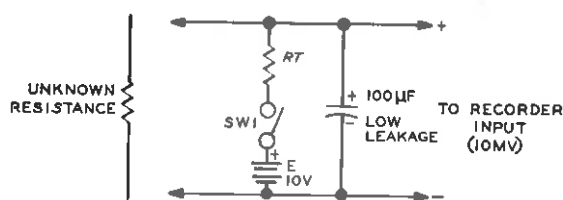

Figure 13
The Recorder can be used to make and record linear resistance measurements. This is useful for monitoring such things as resistance versus temperature. Figures 13 and 14 show circuits that can be built to convert the Recorder into a linear ohmmeter. Either circuit can be used, depending on the type of voltage supply you have available.
To use a 10-volt supply and the circuit shown in Figure 13, proceed as follows:
2. Construct the circuit shown in Figure 13.